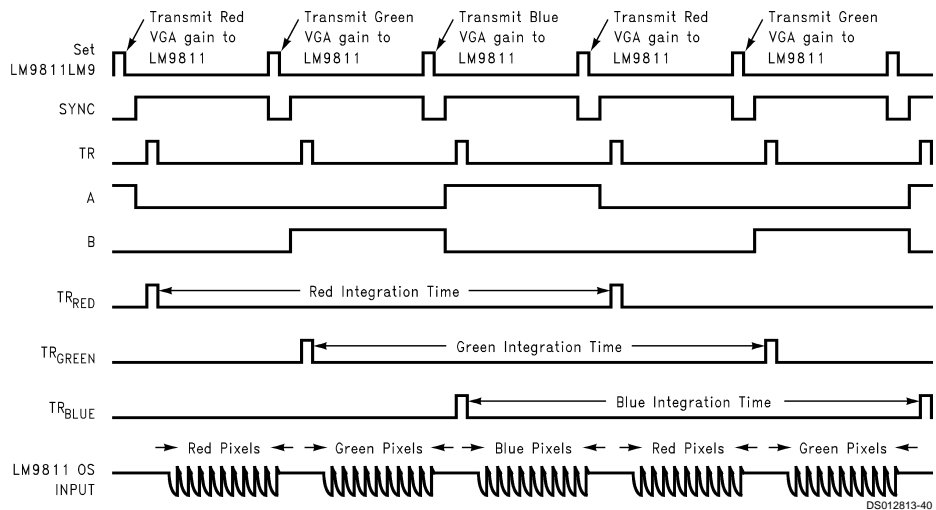

FIGURE 32. Parallel Output CCD Timing
To maximize the integration time for the Red, Green, and Blue photodiodes, the transfer (TR) pulses should be staggered as shown in *Figure 32*. This is done by a demultiplexer (Mux 2) between the TR output of the LM9811 and the transfer gate inputs of the CCD. If the CCD's transfer gate input capacitance is relatively low (see the CCD datasheet for this specification and the requirements for TR pulse rise and fall time), then the other half of the 74HC4052 may be used to switch the TR pulses as shown. If the TR gate input capacitance is so large that the minimum TR rise and fall times can not be met because of the 200Ω max on resistance of the 74HC4052's switches, then the 74HC4052 can not be used to multiplex the TR output and should be replaced with an active demultiplexer such as the 74HC155 dual 2-to-4 demultiplexer.